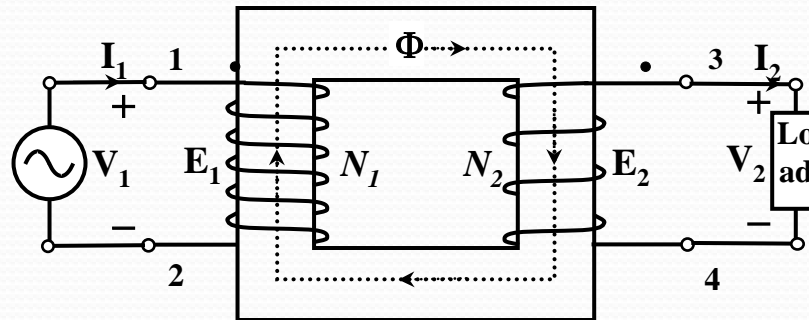

Figure 4.4 Polarity analysis (dot convention)
- Therefore an ideal transformer connected to a source on one side and a load on the other side can be schematically represented as shown in Figure 4.4, where,